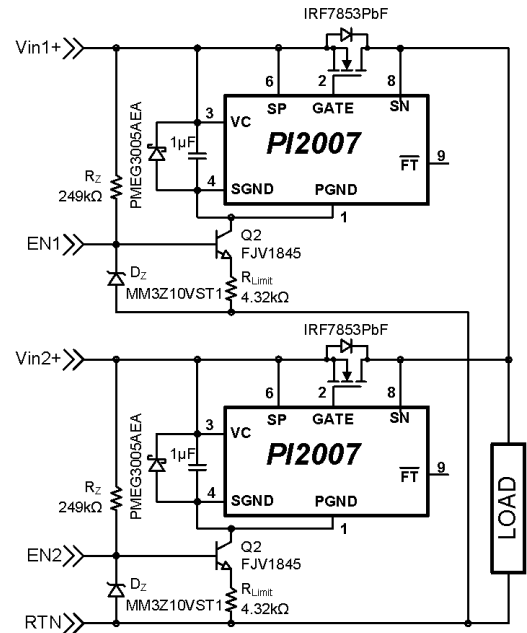

Figure 18: PI2007 in high side +48V application, VC is biased through constant current circuit.
A single PI2007 with a suitable MOSFET for each redundant +48V power source should be used and configured as shown in Figure 17 or Figure 18. Figure 17 is configured with the VC biased from the return line through a bias resistor. Figure 18 is configured with the VC biased from the return line through the constant current circuit.
**VC Bias:** Since the bus voltage is higher than 14V, connect VC pin to the high side of the input voltage and connect a bias resistor ( $R_{PG}$ ) or a constant current circuit between PI2007 SGND pin and ground ( $V_{in}$  return), as shown in Figure 17 and Figure 18. Place a low forward voltage drop Schottky diode and a 1 $\mu$ F ceramic capacitor between SGND pin and VC pin. Also connect PGND pin to SGND at the coupling capacitor terminal.